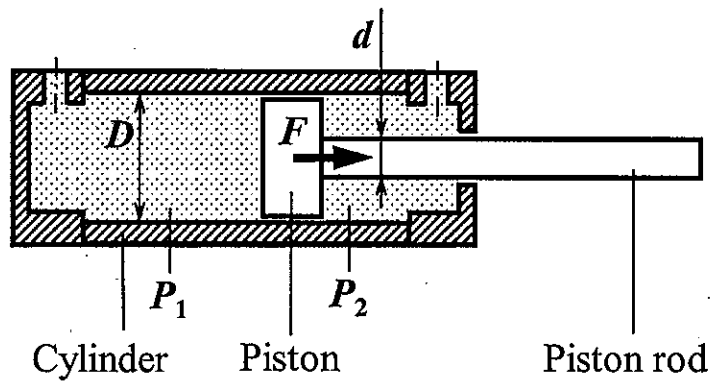
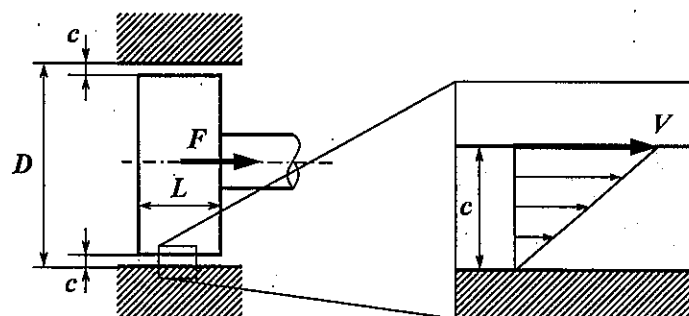

Figure 3-5
Figure 3-6
(1) Pressures  $P_1$  and  $P_2$  ( $P_1 > P_2$ ) are applied in the pressure chambers of a pneumatic cylinder with a cylinder inner diameter of  $D$  and a piston-rod diameter of  $d$  as shown in Figure 3-5. Express the force loaded to the piston  $F$  using  $D$ ,  $d$ ,  $P_1$  and  $P_2$ . In addition, obtain  $P_1$  with two significant digits at  $F = 100 \text{ N}$ ,  $D = 20 \text{ mm}$ ,  $d = 6.0 \text{ mm}$  and  $P_2 = 0.10 \text{ MPa}$ .
(2) The piston rod of the pneumatic cylinder shown in Figure 3-5 moves with a velocity  $V$ . As shown in Figure 3-6, the gap between the piston and cylinder is filled with lubricant and the force applied to the piston is balanced with the viscous resistance of the lubricant. When the length of the piston is  $L$ , the clearance between the piston and cylinder is  $c$  and the viscosity coefficient of lubricant is  $\mu$ , answer the following questions.